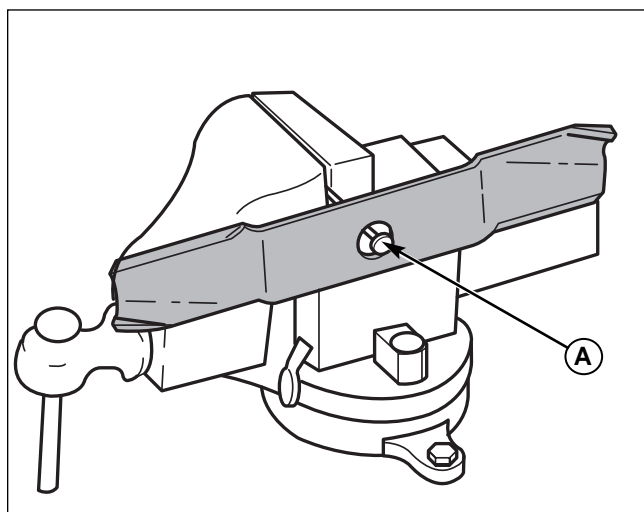

Figure 29. Balancing the Mower Blade
2. See Figure 29. Put the mower blade on a nail in a vise and turn the mower blade to the horizontal position.